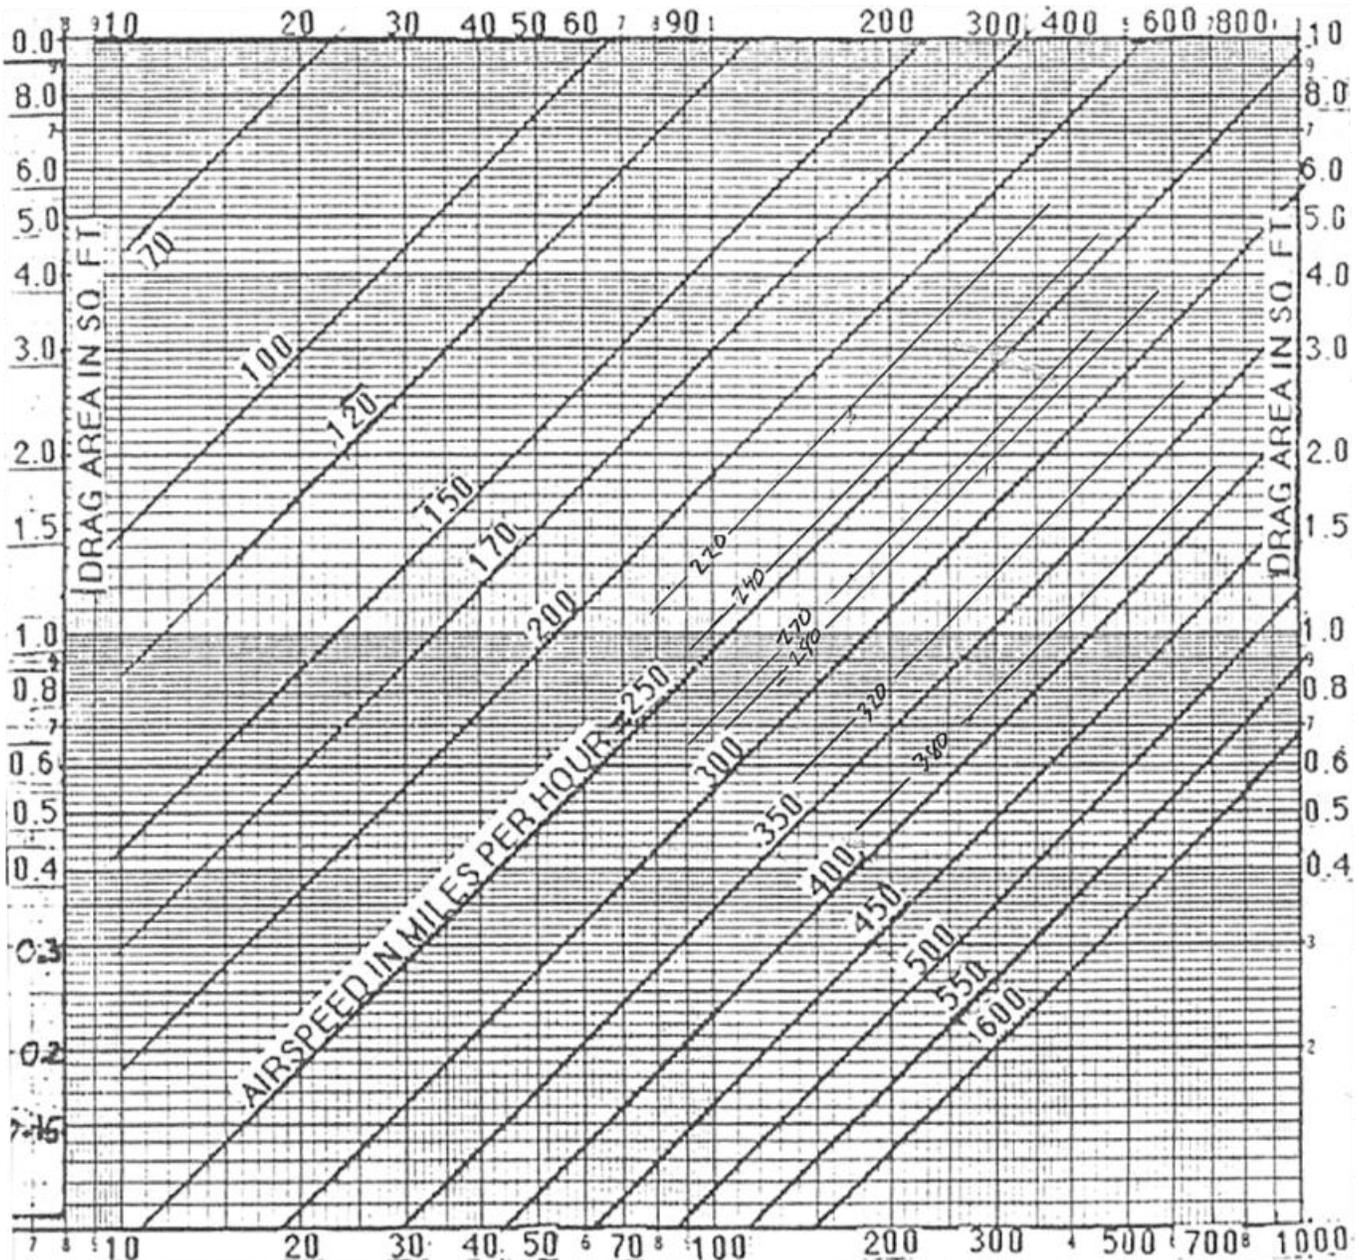

FIGURE 1 – HORSEPOWER VS PROP EFFICIENCY
6. In the H x PE chart (Figure 1), find the diagonal HPE line corresponding to the number determined in Step 5. Find the point on that line where it intersects the vertical line for your TAS determined in Step 4
6. Enter the chart (Figure 1) on the diagonal line for your HP times prop efficiency. Where it intersects the vertical line for your corrected sea level TAS in miles per hour (MPH = knots times 1.15) go horizontal to left or right and read off the flat plate drag area on the vertical axis.